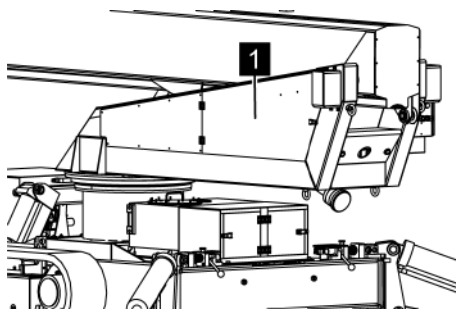

Fig. 104: Door
3. ➔ Open the door (Fig. 104/1) in the lift arm holder. The charging station is behind this.